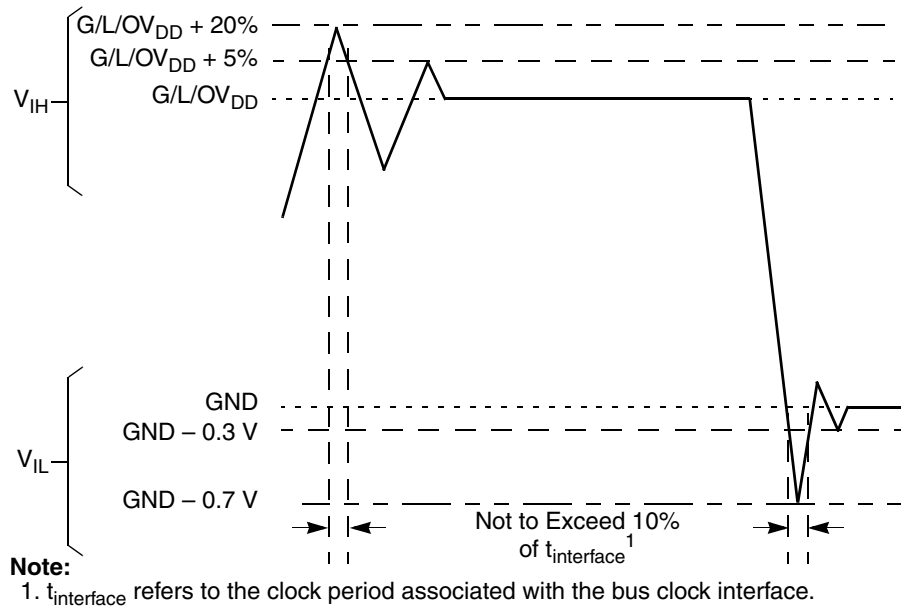

Figure 2. Overshoot/Undershoot Voltage for $GV_{DD}/OV_{DD}/LV_{DD}$
- (M,L,O) V_{IN} and MV_{REF} may overshoot/undershoot a voltage and for a maximum duration as shown in Figure 2.
Figure 2 shows the undershoot and overshoot voltages at the interfaces of the MPC8343EA.